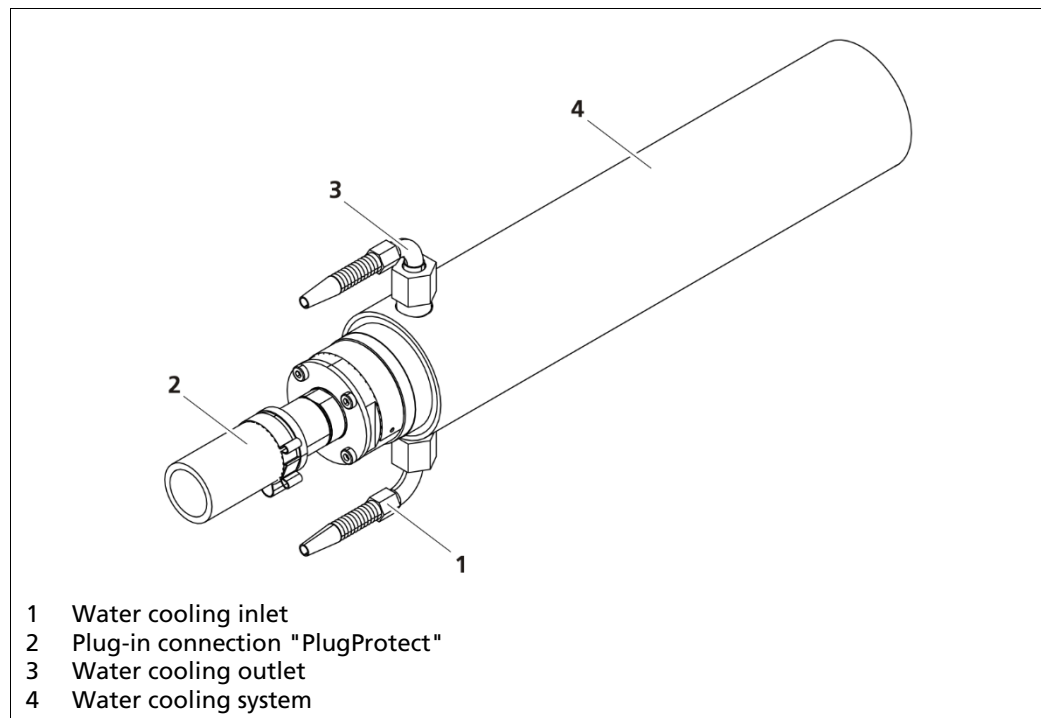
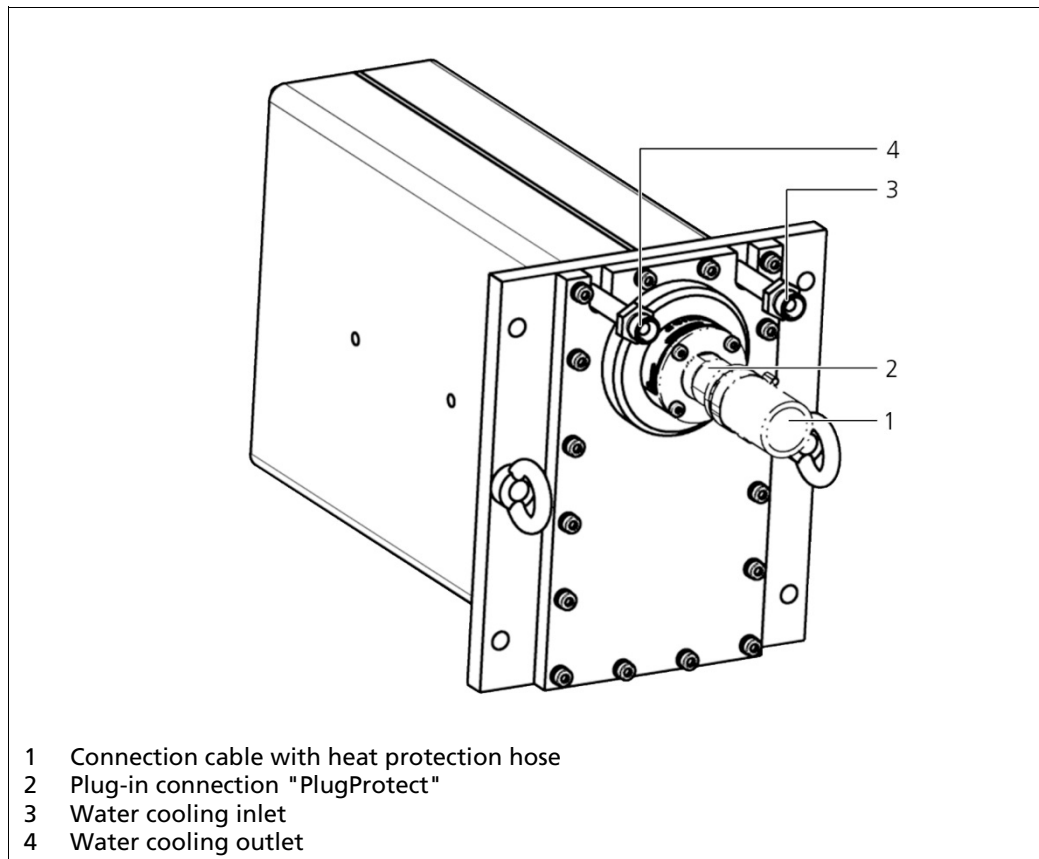

Fig.5 GAMMAcast detector LB 6739 or LB 6760 with water cooling system
Fig.6 GAMMAcast detector LB 6752 with integrated water cooling system
Please make sure that the water is drained at the highest point, as shown in (Fig.5, item 3 and Fig.6, item 4).
When fixing the GAMMAcast detector to the water cooling system, please make sure that the discharge nozzle on the mould is at the highest point (Fig.5, item 3 and Fig.6, item 4.) This will ensure that there is always enough water in the water cooling system and that no air bubbles can form.
Connect the inlet and outlet of the cooling water to the GAMMAcast detector (LB 6739 / LB 6760: Fig.5, item 1 and 3; LB 6752: Fig.6, item 3 and 4).